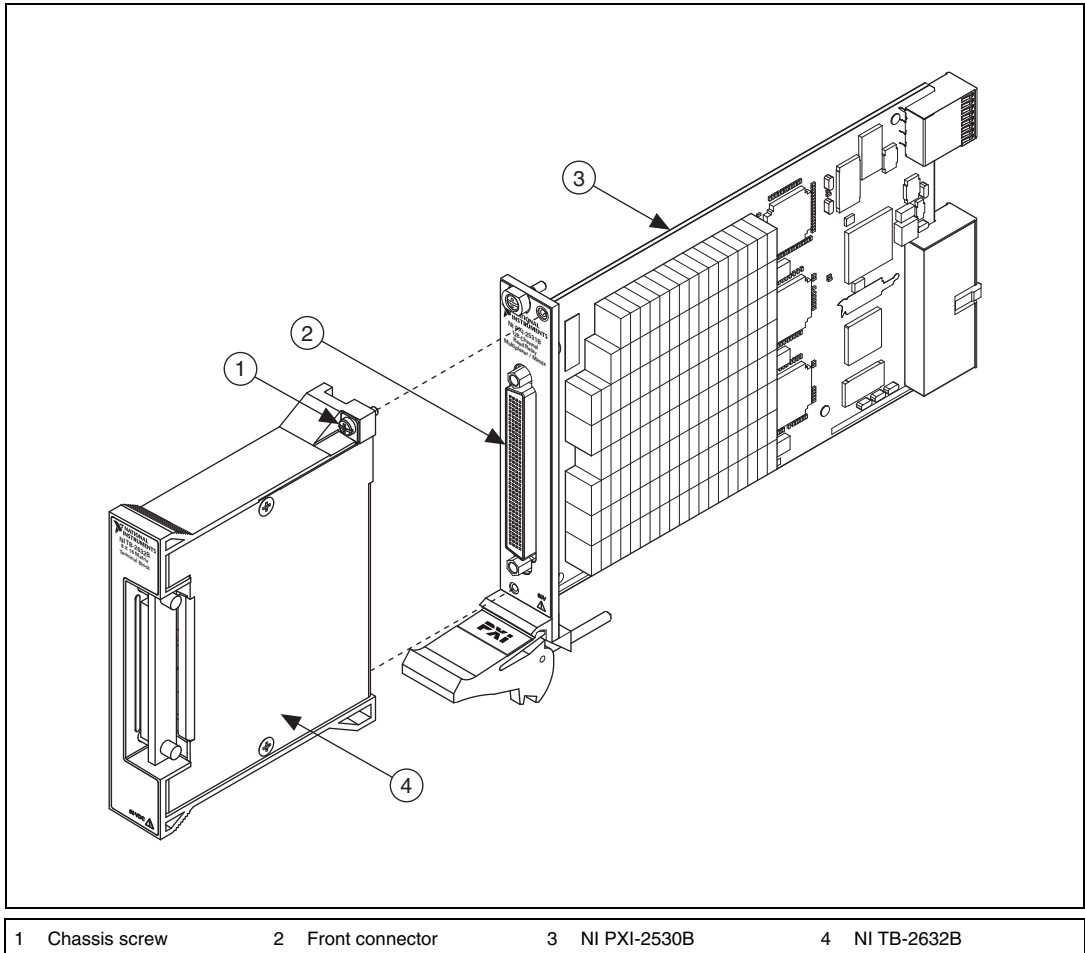

Figure 3. Installing the TB-2632B Terminal Block
1. Plug the NI TB-2632B on to the front connector of the NI PXI-2530B as shown in Figure 3.